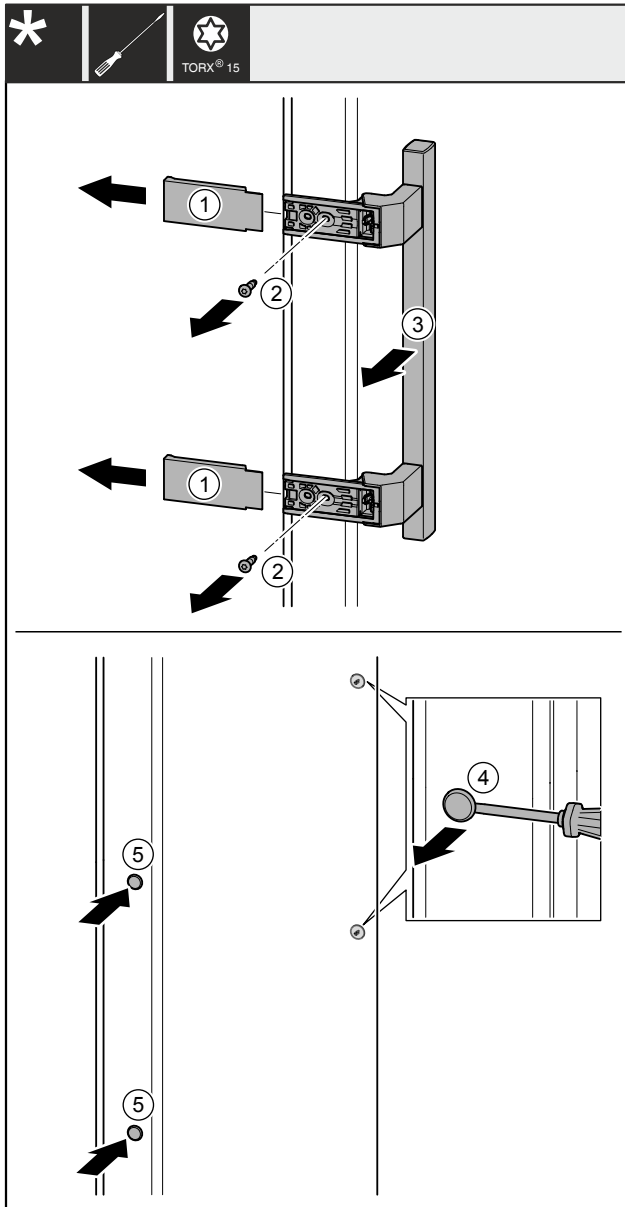

Fig. 41
- Remove the covers Fig. 41 (1).
- Unscrew screws Fig. 41 (2) with screwdriver.
- Remove the handle Fig. 41 (3).
- Use a slotted screwdriver to lift the side plug Fig. 41 (4) carefully and pull it out.
- Re-insert the plug Fig. 41 (5) on the other side.